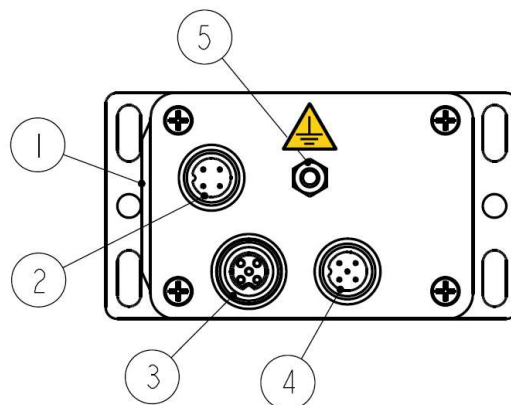

Figure 2: Electrical connections
4.1 Ground connection (Figure 2)